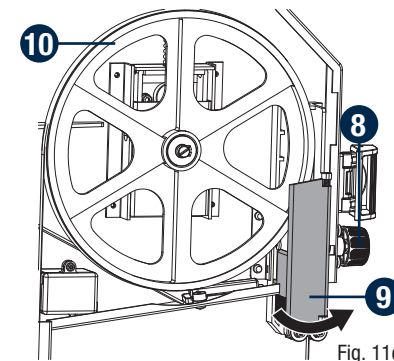

Fig. 11c
- Loosen and remove the D-nut, flat washer and wing screw from the work table (1).
- Turn the lock knob (6) counter-clockwise to unlock the blade guide assembly (7). Turning the upper guide knob (8) (clockwise raises the blade guide assembly (7); counter-clockwise lowers it), position the blade guide assembly (7) about halfway between the work table and saw housing. Retighten the lock knob (6).
- Open the upper blade guard (9) by pulling the left side of the guard out and away from the upper idler wheel (10). (Fig. 11c)
- Release all blade tension from the blade by turning the blade tension lever (11) counter-clockwise.
- Carefully remove the old blade (12).
## TRACKING THE BLADE (Fig. 11c, 12a-12b)
- To check the position of the blade, rotate the lower drive wheel (1) by hand in clockwise direction. View the blade through tracking window.
- Open the upper blade guard by pulling the left side of the guard out and away from the upper idler wheel. (Fig. 11c)
- Loosen the blade tracking knob (2). If the blade rides away from the cabinet, turn the tracking knob clockwise. If the blade rides toward the cabinet, turn the tracking knob counter-clockwise.